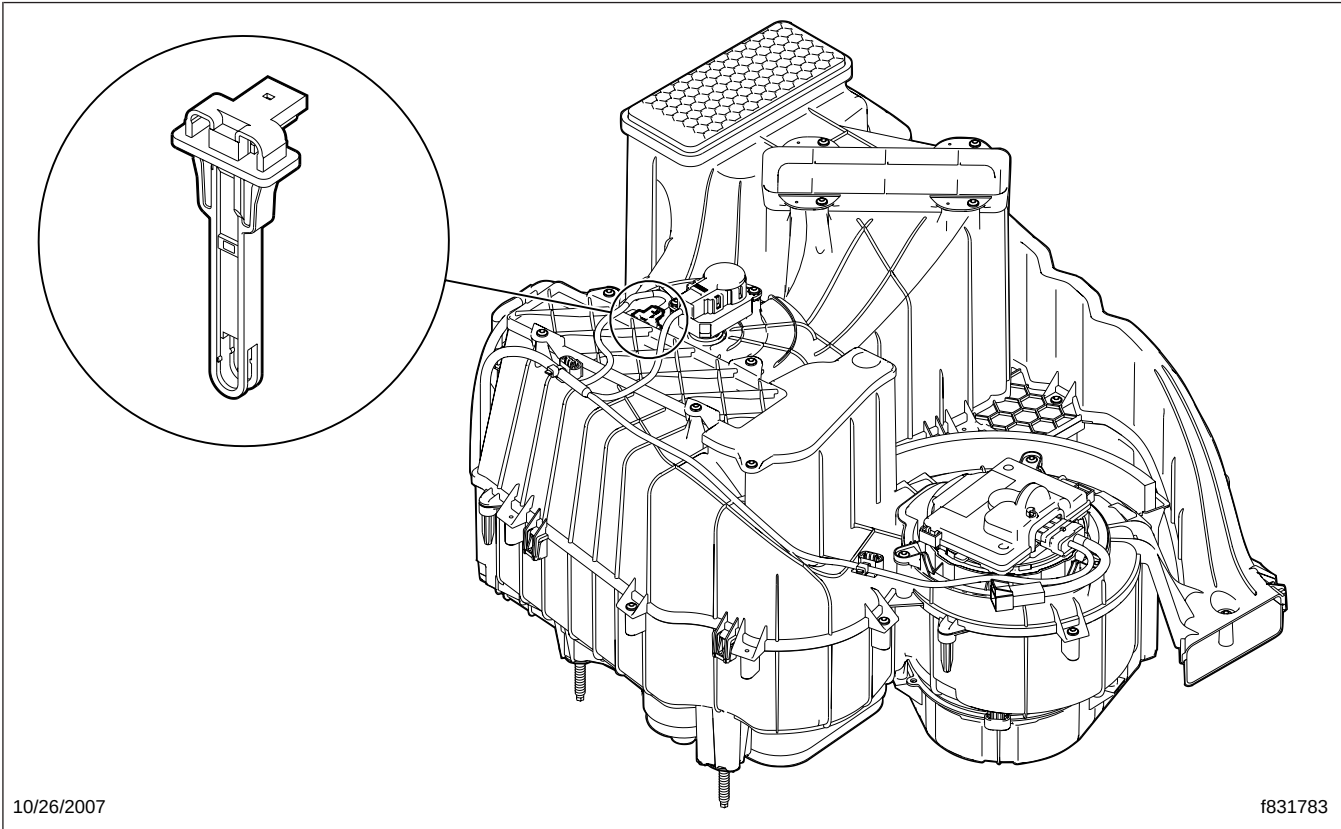

Fig. 2, Temperature Sensor Installation
4. Remove the harness connector. See **Fig. 2**.